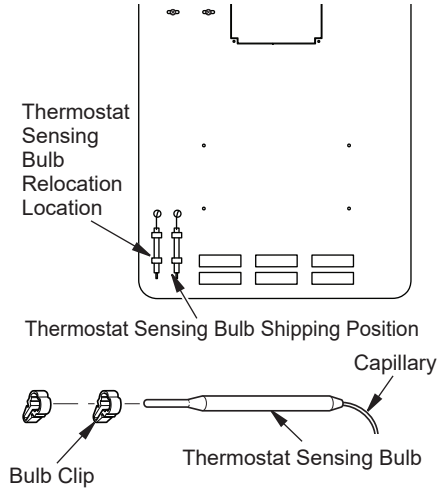

Figure 5 - Moving Thermostat Sensing Bulb
1. Carefully remove bulb clips with thermostat sensing bulb from the shipping position in the back panel, see Figure 5.